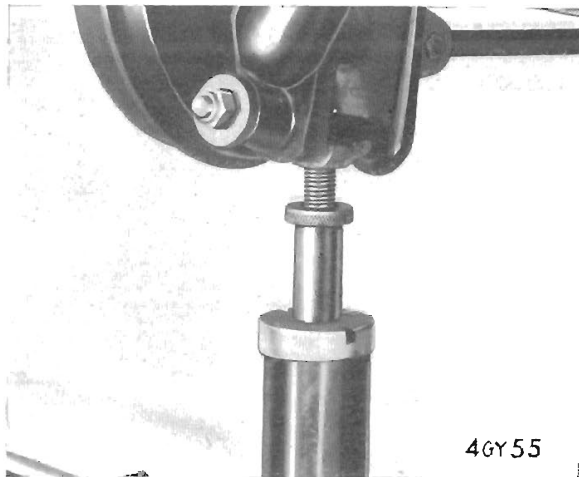
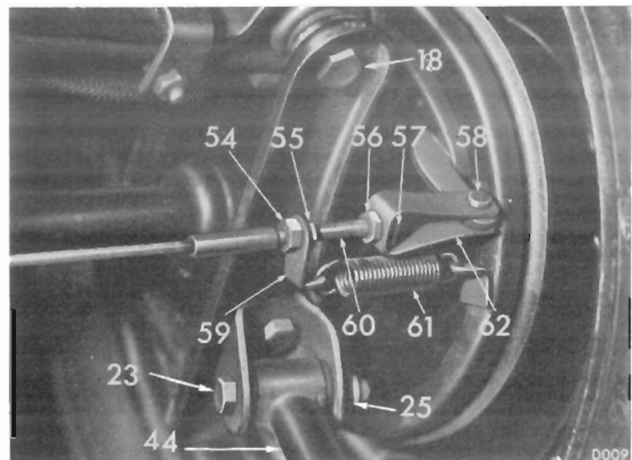

Fig. 51. Using jack to support vertical link
Fig. 54. Handbrake cable attachments
1. Jack up the vertical link (12) to relieve the damper (11) of load, as shown on Fig. 51, remove the bolt (9) from the upper attachment and the nyloc nut (54) from the lower damper eye.
1. Jack up under the vertical link to relieve the damper of load as shown on Fig. 51.
- the brake hose (63) from its steel pipe and chassis bracket ;
- the handbrake cable (60) from the back-plate lever, and return spring (61). Fig. 54 ;